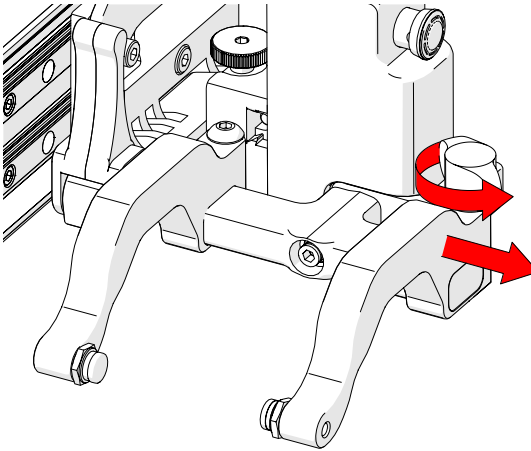

Fig. 193 - Remove outer arm
3. Loosen the probe holder adjustment knob and remove the outer probe holder arm (Fig. 193).